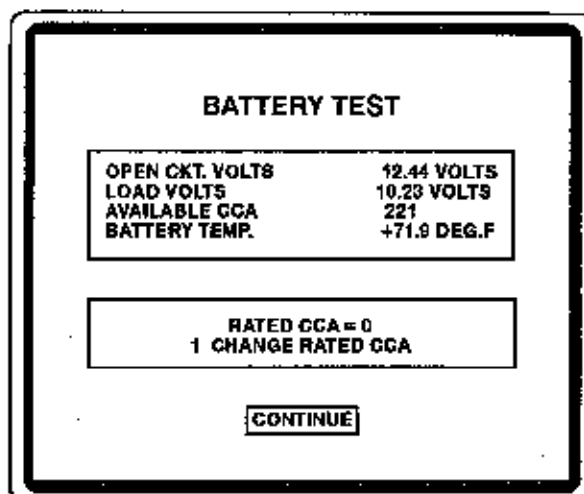

Figure 114
3. In some cases the analyzer will need to know if the battery has been charged. Answer YES or NO as appropriate when this screen appears (see Figure 114).